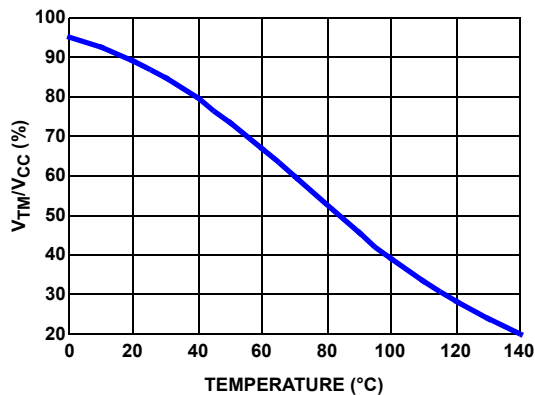

FIGURE 15. THE RATIO OF TM VOLTAGE TO NTC TEMPERATURE WITH RECOMMENDED PARTS
Figure 15 shows the TM voltage over temperature for a typical design with a recommended 6.8k Ω NTC (P/N: NTHS0805N02N6801 from Vishay) and 1k Ω resistor R_{TM1} . We recommend using these resistors for accurate temperature compensation.
Based on the V_{CC} voltage, ISL6336B converts the TM pin voltage to a 6-bit digital signal for temperature compensation. With the non-linear A/D converter of ISL6336B, the TM digital signal is linearly proportional to the NTC temperature. For accurate temperature compensation, the ratio of the TM voltage to the NTC temperature of the practical design should be similar to that in Figure 15.
1. Properly choose the voltage divider for TM pin to match the TM voltage vs temperature curve with the recommended curve in Figure 15.